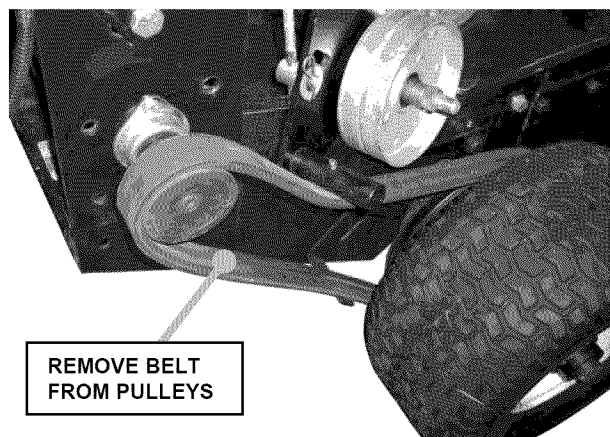

FIGURE 6.14
- Slide old wheel drive belt off pulleys. See Figure 6.14. NOTE: Drop belt down around wheel, and roll mower over belt.